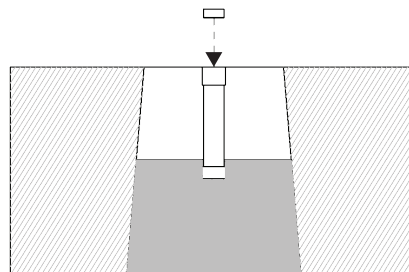

Figure 3
**STEP 6:** Replace Anchor Sleeve Cap and fill the rest of the hole with concrete. See Figure 3 and 4.